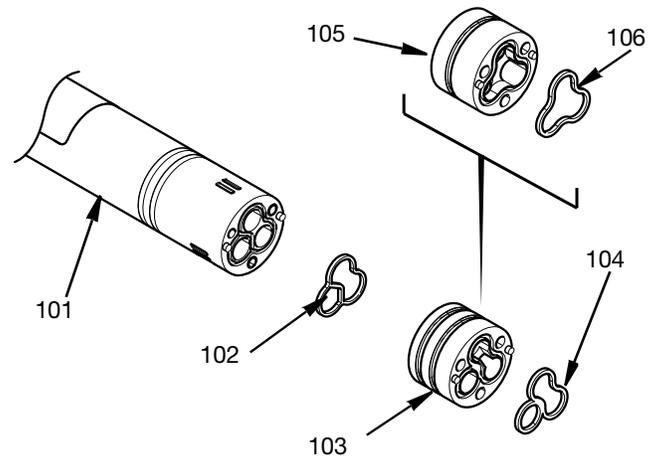

FIG. 16
5. If necessary, remove the lower one material gasket (106), or lower two material gasket (104). The one material adapter (105), or two material adapter (103) and the adapter gasket (102) can now be removed. See FIG. 16.